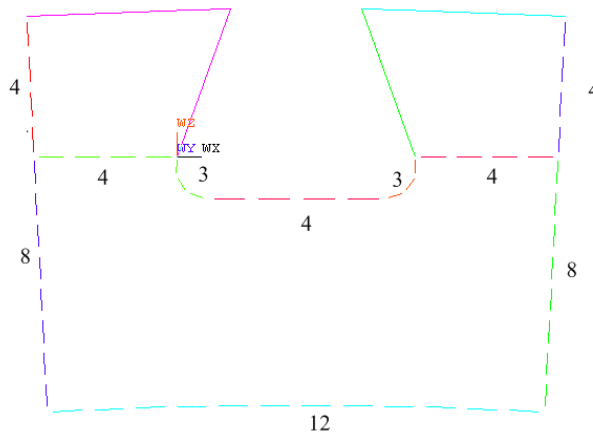

Fig. 6.14. Number of elements along the end face
3) Set the number of elements along the lines as shown in Fig. 6.14 and 6.15: **PrPr** → **Meshing** → **Size Cntrls** → **Lines** → **Picked Lines**.
5) Create unordered mesh of finite elements on the lower end surface of A105 (Fig. 6.14): **PrPr** → **Meshing** → **Mesh** → **Areas** → **Free**. Based on this mesh will be created volume mesh.